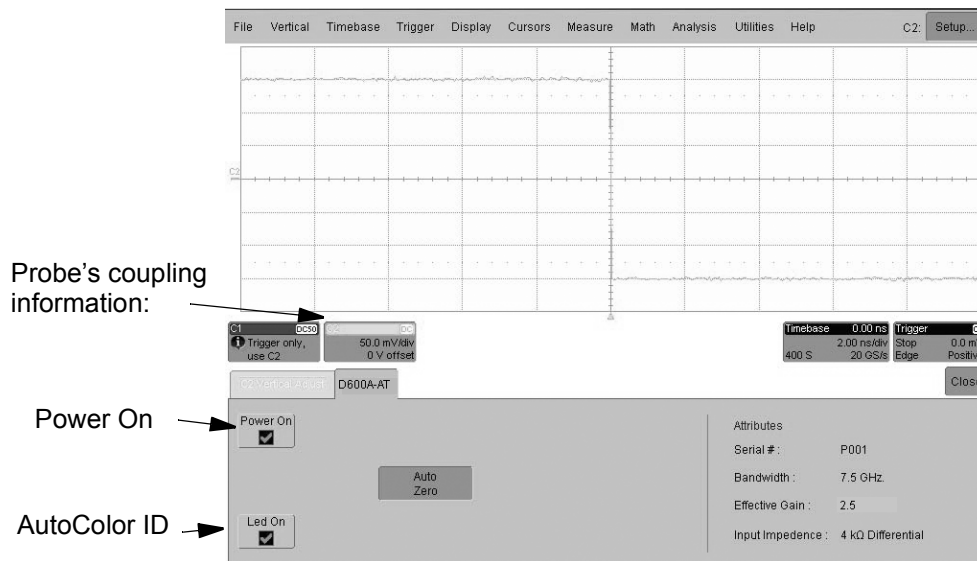

Figure 7-2. D600ST probe menu.
5. Touch D600A-AT frame to bring up the D600A-AT probe menu. Figure 7-2.